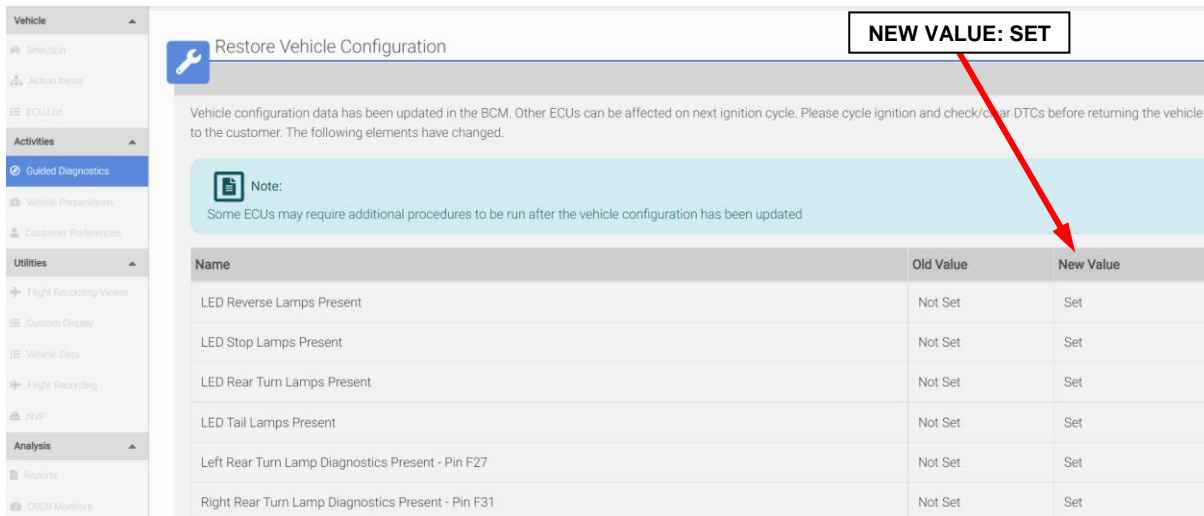

Figure 6 – LED Lamps – New Value: Set
11. Once “**Restore Vehicle Configuration**” has been completed, ensure LED lamps show new value as “**Set**” (Figure 6).